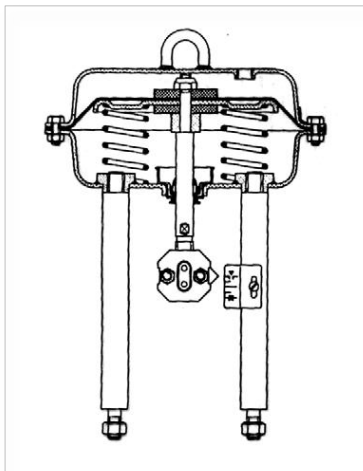
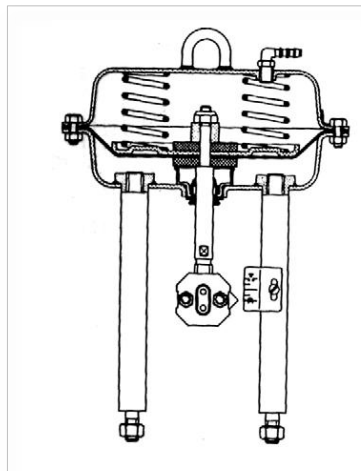

Fig. 8: actuator direct acting
Fig. 9: actuator reverse acting
4. On direct acting actuator (Figure 8) apply sufficient air pressure to the actuator to fully stroke the actuator to nominal stroke plus 5%.
5. On reverse acting actuator (Figure 9) apply sufficient pressure to the actuator to start point (eg. 0,5 bar).
5. Assemble the internal parts in accordance with Figure 8 (directing) or figure 9 (reverse acting). Follow above disassembly procedure 1 to 4 in reverse sequence. Ensure that the actuator springs are evenly distributed inside the casing and vertically located by the spring buttons of the diaphragm plate.
5. Use a new actuator diaphragm and assemble the internal parts in accordance with Figure 8 (direct action) or Figure 9 (reverse action). Follow above disassemble procedure 1 to 4 in reverse order. Ensure that the actuator springs are evenly distributed inside the casting and vertically located by the spring buttons of the diaphragm plate.